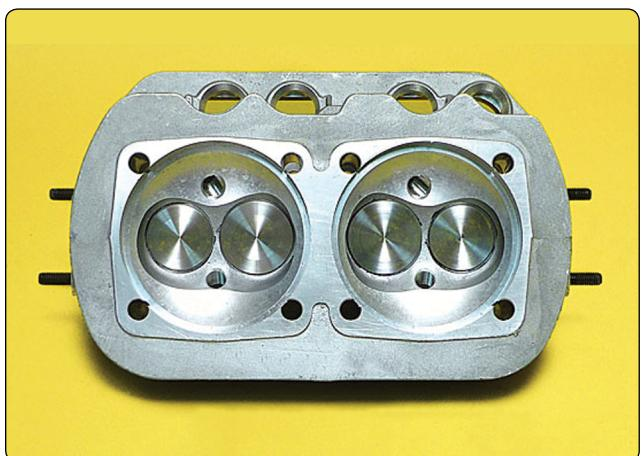

Figure 11-22. Hemispherical combustion chamber within the Revmaster R-2300 Heads.
horsepower (82) at 2,950 rpm continuous. [Figure 11-22] Takeoff power is rated at 85 at 3,350 rpm. The additional power comes from a bore of 94 mm plus lengthening of the R-2200's connecting rods, plus increasing the stroke from 78 to 84 mm. The longer stroke results in more displacement, and longer connecting rods yield better vibration and power characteristics. The lower cruise rpm allows the use of longer propellers, and the higher peak horsepower can be felt in shorter takeoffs and steeper climbs.